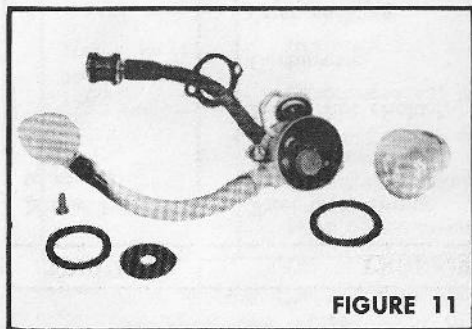

FIGURE 11
7. **CARBURETOR:** Do not screw adjustments in body seat too tight. Remove the pump base portion for inspection and cleaning (figure 11). It is recommended that carburetor overhaul should be performed by your servicing dealer.